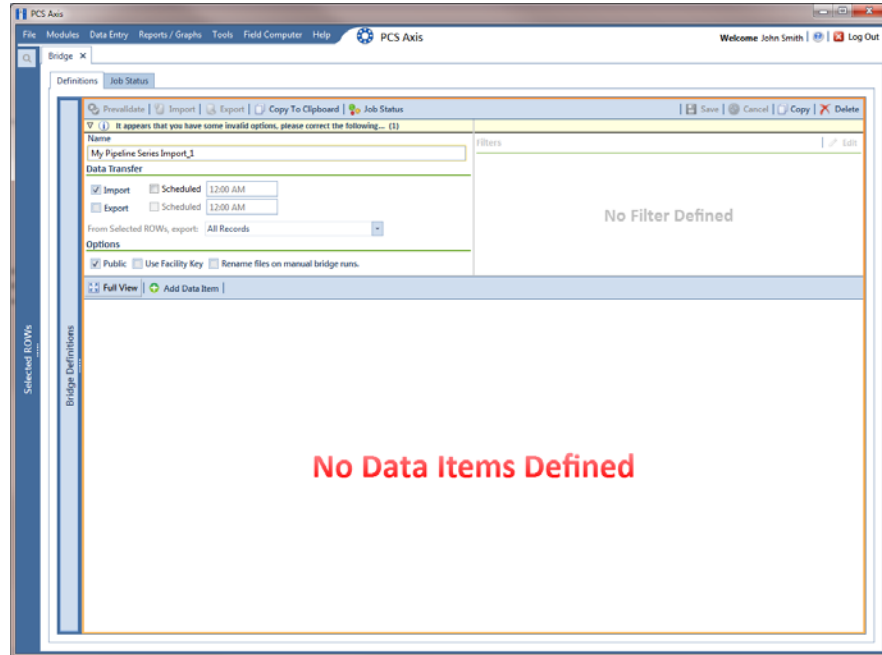

Figure 10-63. Bridge Import Definition
- 5 Set properties in the *Options* group box as follows (Figure 10-63, page 514):